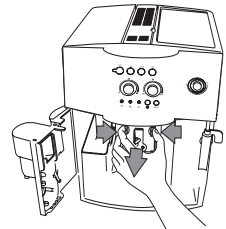

Figure 24
- Press the two red release buttons on the brewing system (Figure 24) and pull it out.